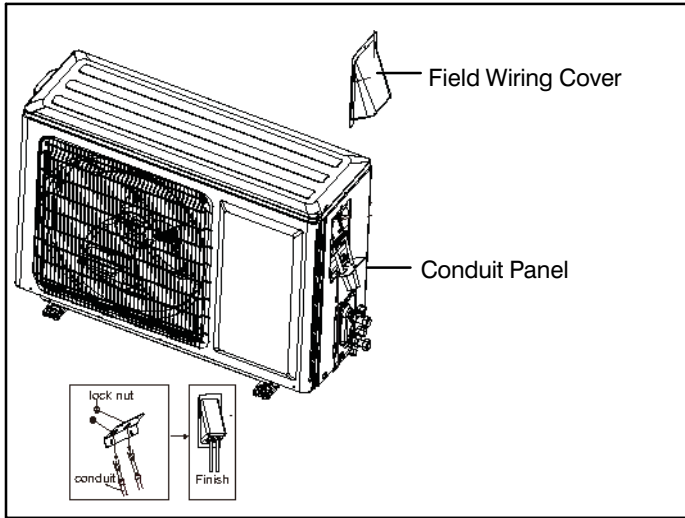

Figure 8 – Install Outdoor Unit
3. Remove field wiring cover from unit by removing screws. See Figure 8.
4. Connect conduit to the conduit panel on sizes 9K, 12K and 18k. See Figure 8.